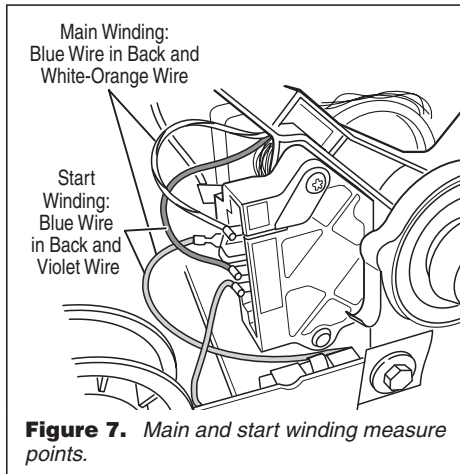

Figure 7. Main and start winding measure points.
6. Using figure 7, check for the resistance values of the motor's Main and Start winding coils as shown below.